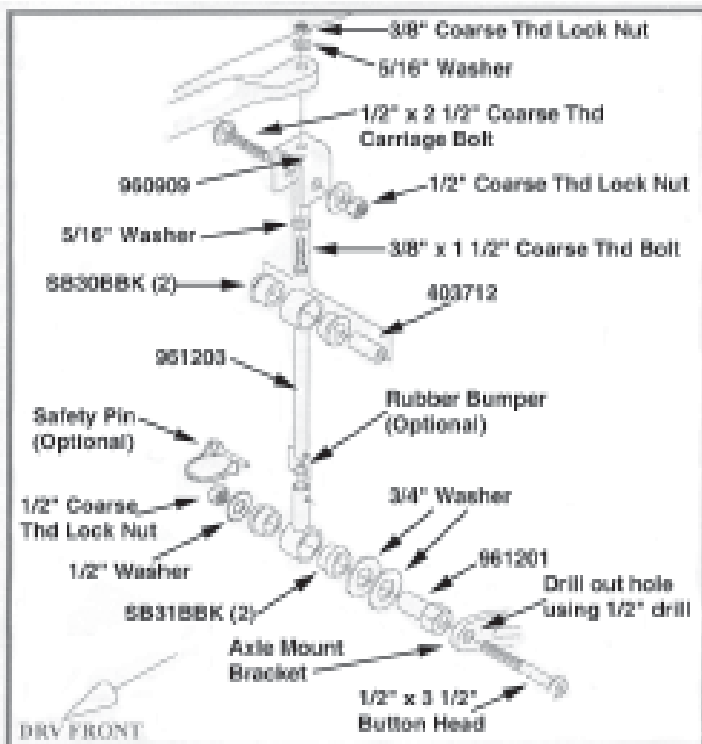

Fig. 3
- 5. Assemble & install the anti-sway bar end links (961203) as shown in **Fig. 3**.